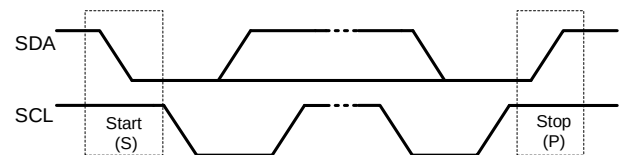

Figure 13: Start and Stop Commands
All transactions begin with a start (S) command and are terminated by a stop (P) command. Start and stop commands are always generated by the initiator. A start command is defined as a high-to-low transition on the SDA while the SCL is high. A stop command is defined as a low-to-high transition on the SDA while the SCL is high (see Figure 13).